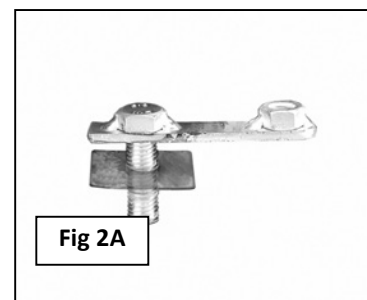

Fig 2A
2. Starting at the driver side-front of the vehicle, remove the sealing tape covering the factory holes on the side of the inner panel, **(Figure 1A, 1B, 1C)**. Partially thread (1) 12mm Plastic Retainer onto the threaded end of (1) 12mm Bolt and Nut Plate, **(Figure 2A)**. Insert the Bolt and Nut Plate into the factory oval hole. Continue to thread the Plastic Retainer down the Bolt and Nut Plate until it is flush against the sheet metal, **(Figure 2B)**. **NOTE:** When properly installed, the Plastic Retainer is designed to prevent the Bolt and Nut Plate from falling into the body cavity during installation.